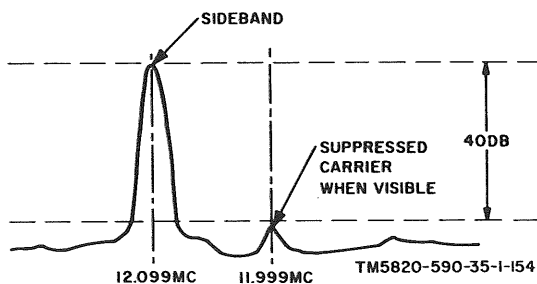

Figure 5-6. Carrier suppression display.
(1) Tune the AN/GRM-33A to the output frequency of the radio set.
(2) Set the AMPLITUDE SCALE switch to LOG and the IF ATTEN switch to 20DB.
(3) Set the radio set OFF-ON-TUNE switch to TUNE, and adjust the CN-796/U and the AN/GRM-33A INPUT ATTENUATOR and GAIN controls to position the peak of the sideband signal at the 0-db line on the scale.
(4) Set the AN/GRM-33A IF ATTEN switch to 0DB. The suppressed carrier signal shall not exceed the 20-db line (40 db down) (fig. 5-6).
(5) The hum and noise signals shall not exceed the 10-db line (30 db down).
(6) Leave the equipment connected for the test in *c* below.